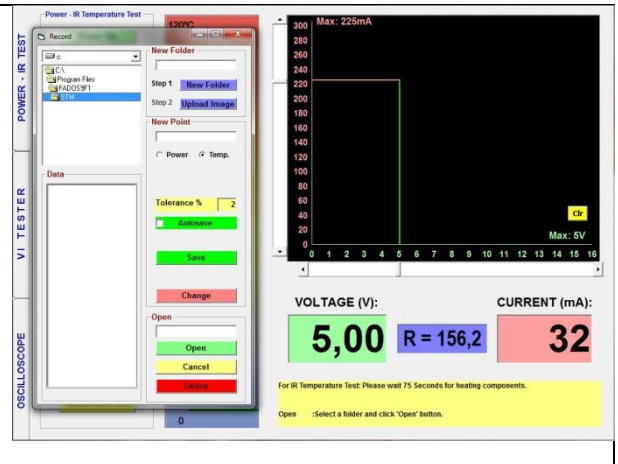
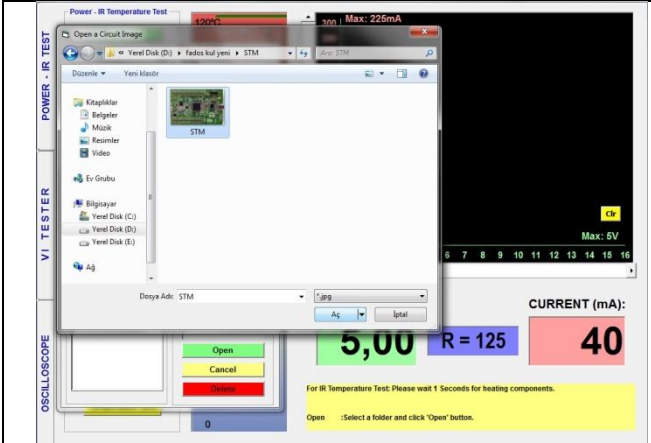
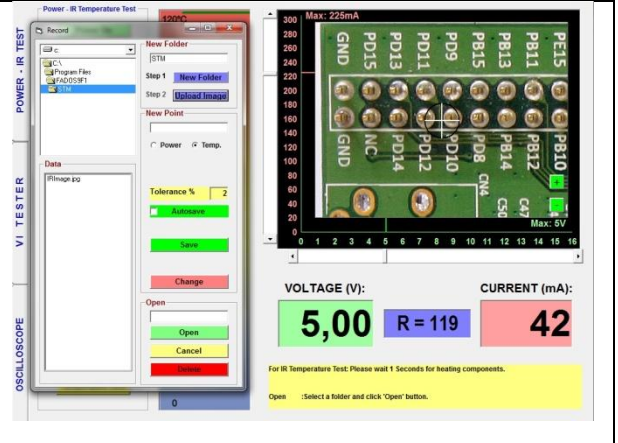

Figure 35: Opening the Recording Window (Step 4)
Figure 36: Uploading the Electronic Circuit's Photo to the FADOS9F1 Software (Step 5)
Figure 37: Uploading the Electronic Circuit's Photo to the Software (Step 6)
5. The temperature selection is clicked and the "Recording" Button is pushed to open the Recording Window. The name of the folder to be recorded in the New Folder is entered. (if already entered for the DC Voltage - Current Graph, the folder to be saved in is selected) The photo of the electronic circuit board is selected from Image Upload. The photo is uploaded to the software by clicking "open" button and is displayed on the screen (Figure 35 - Figure 36 - Figure 37)